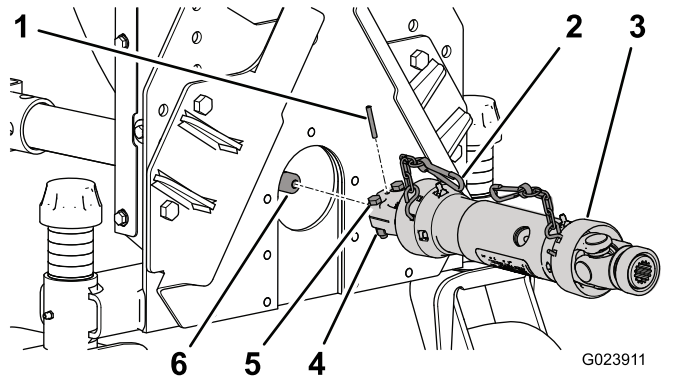

Figure 9
4. Secure the assembly with a roll pin (Figure 9).
5. Secure the drive shaft to the gear box shaft with 2 bolts (5/16 x 1-3/4 inch) and 2 locknuts (5/16 inch) (Figure 9).
8. Secure the safety chain to the blower frame (Figure 9).